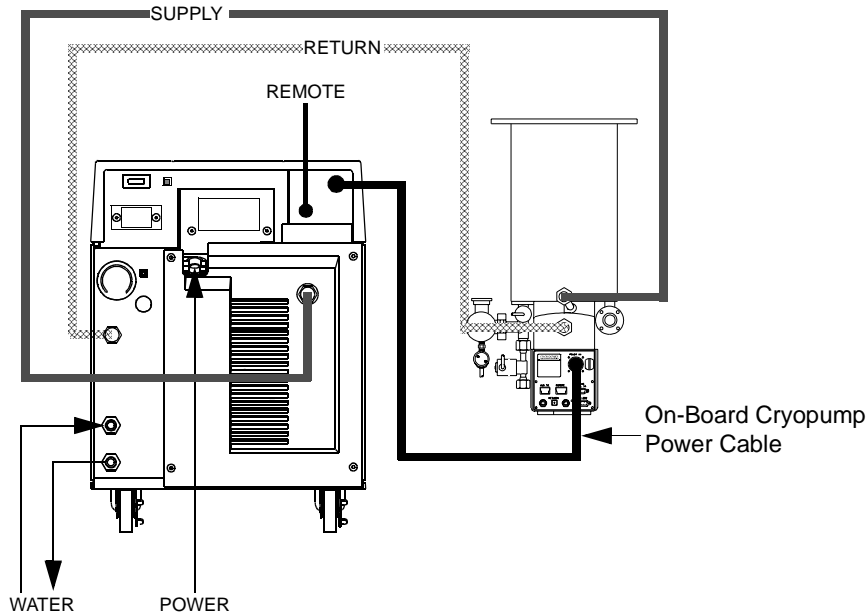

Figure 3-4: Single On-Board Cryopump Connections
2. Connect one end of the Cryopump cold head cable to the CRYOPUMP ELECTRICAL OUTLET on the rear panel of the Compressor as shown in Figure 3-4.